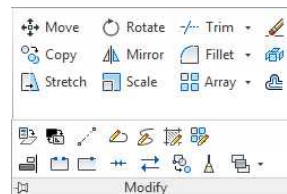

FIGURE 1.10: The expanded Modify panel
4. Click the Modify panel's title bar to expand the panel and expose all of the Modify tools (see Figure 1.10).